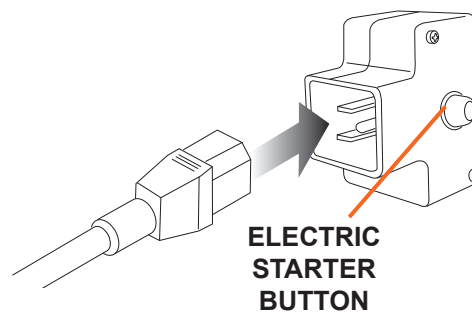

Figure 13
1. Connect extension cord to the starter outlet on the engine and into a 120V AC outlet (see Figure 13).